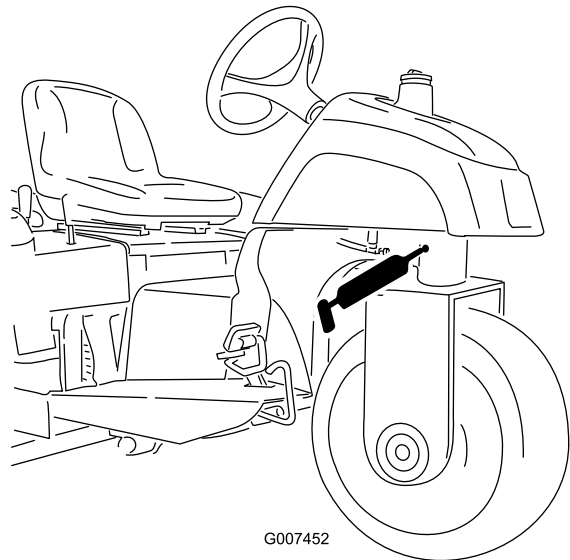

Figure 27
- Steering pivot (Figure 27)
**Note:** The flush fitting on the steering pivot (Figure 27) requires a grease gun nozzle adapter. Order Toro Part No. 107-1998 from your Authorized Toro Distributor.